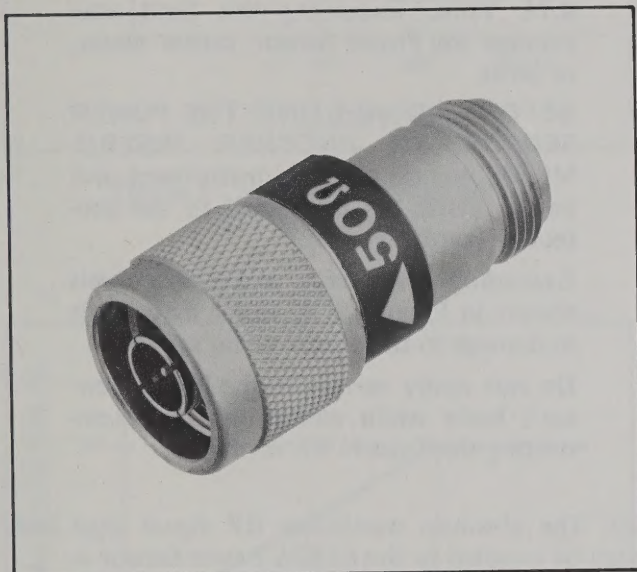

Figure 1. Mechanical Adapter
13. The Model 8483A is supplied with an adapter (HP 1250-0597, shown in Figure 1) for joining the Power Sensor's 75 ohm Type N connector to the 50 ohm power reference connector on the power meter. This accessory is a mechanical adapter only and does not affect the input impedance of the Power Sensor or the output impedance of the power reference. Therefore an impedance mismatch exists and the meter should be calibrated to 96% of the power reference level at 50 ohms (e.g., 0.96 mW for the HP Model 435A).